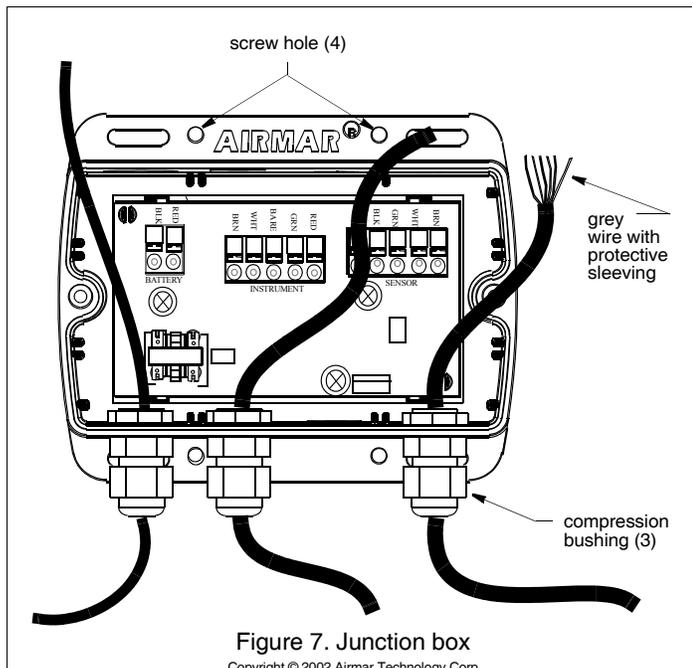

Figure 7. Junction box
1. Be sure the power is 'OFF'. Remove the junction box cover and set it aside along with the screws (see Figure 7).